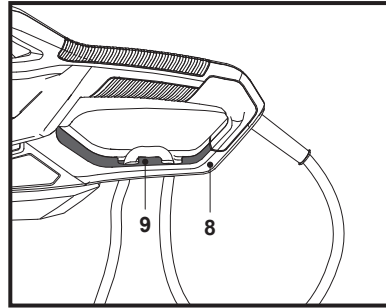

Fig. 2b
2. Pull it over the cord retainer (9) and gently tug on the cord to ensure that it is firmly secured (Fig. 2b).